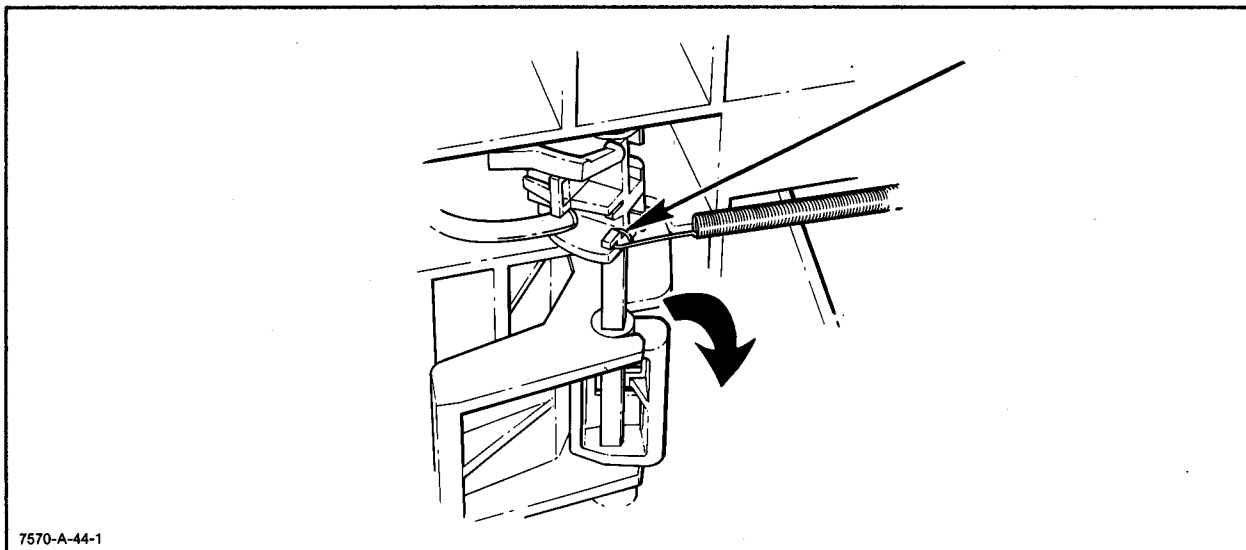

Figure 6-46. Pinch Wheel Sensor Switch
- g. Disconnect the sensor switch spring from the switch. See Figure 6-46.
- h. Grasp the pinch wheel lift bar and pull carefully to the right and down as illustrated by the heavy arrow in Figure 6-46. This will separate the pinch wheel cam from the arm.
- d. Connect the sensor switch spring to the chassis. See Figure 6-46.